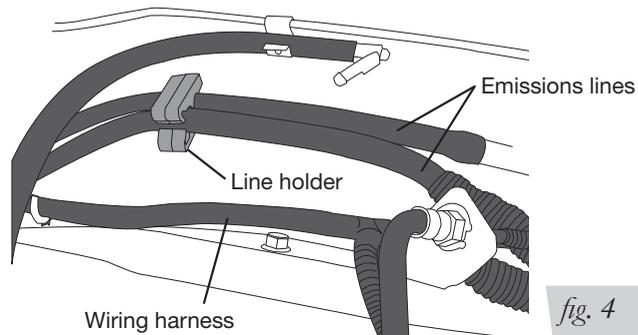

fig. 4
4. Disconnect the wiring harness from the driver's (left) side frame rail to gain clearance for the upper brace (Fig. 4).
2. Carefully push the line holder out of the frame above the axle. Try to minimize damage because it will be reused. It may also be helpful to remove any holders forward or rearward of the axle to aid in positioning the lines once the upper brace has been installed (Fig. 4).